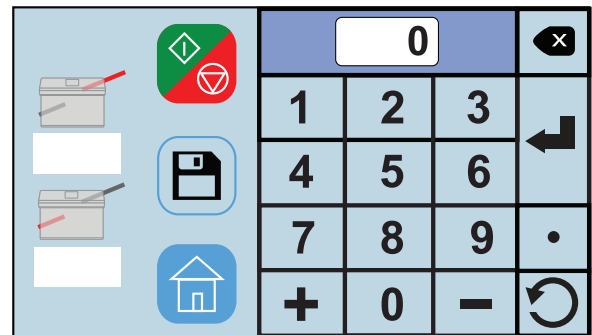

Fig. 11
1. Select the upper fold table icon  (Fig. 11) to set the fold stop position for the first fold (the icon will flash dark gray when selected). Using the touch pad, key in the measurement for the first fold stop position. (**Note:** the minimum position is 1.75" and the max. position is 11").